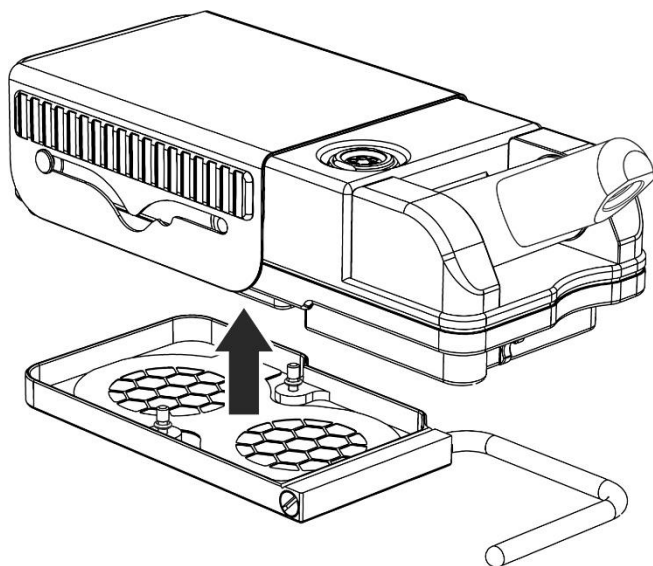

Figure 3.5 – Connecting the protection cover with ABG probe's body
- firmly press the protection cover with grids and gaskets to ABG probe's body (Figure 3.5);
- firmly press the protection cover with the grids and gaskets to the ABG probe's body (Figure 3.5);